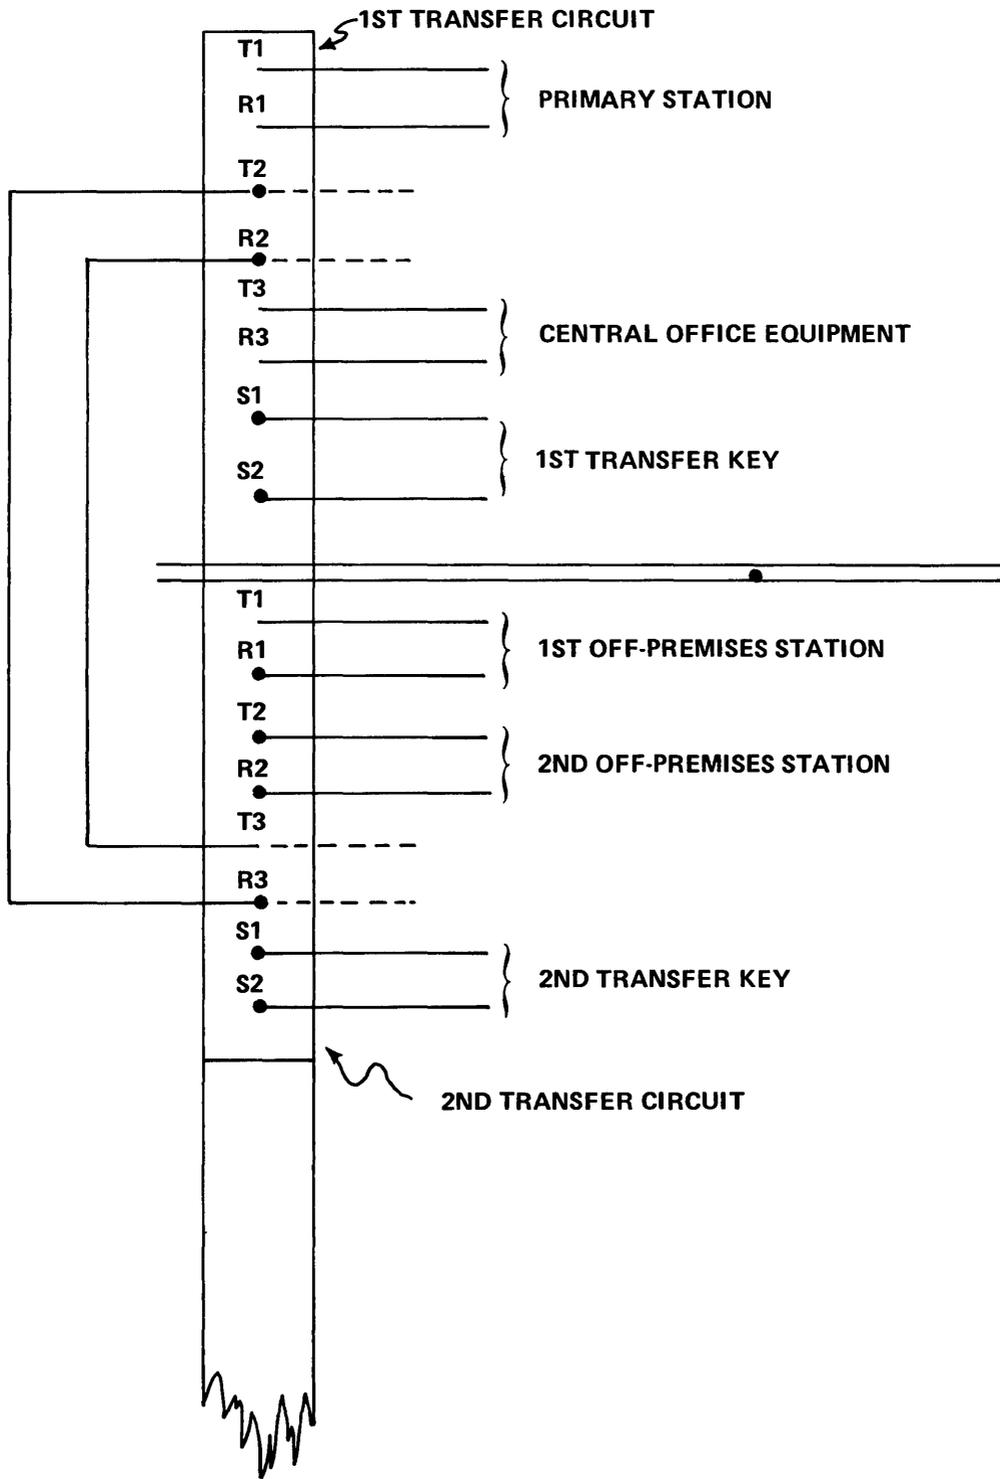

Fig. 3 – Two Transfer Circuits Used for Transfer of Two Off-Premises Stations
3.02 Two subscriber line transfer circuits may be used with two keys at the primary station to transfer the circuit to one of two off-premises stations. This will cause the bell to ring only at the station activated. See Fig. 3.